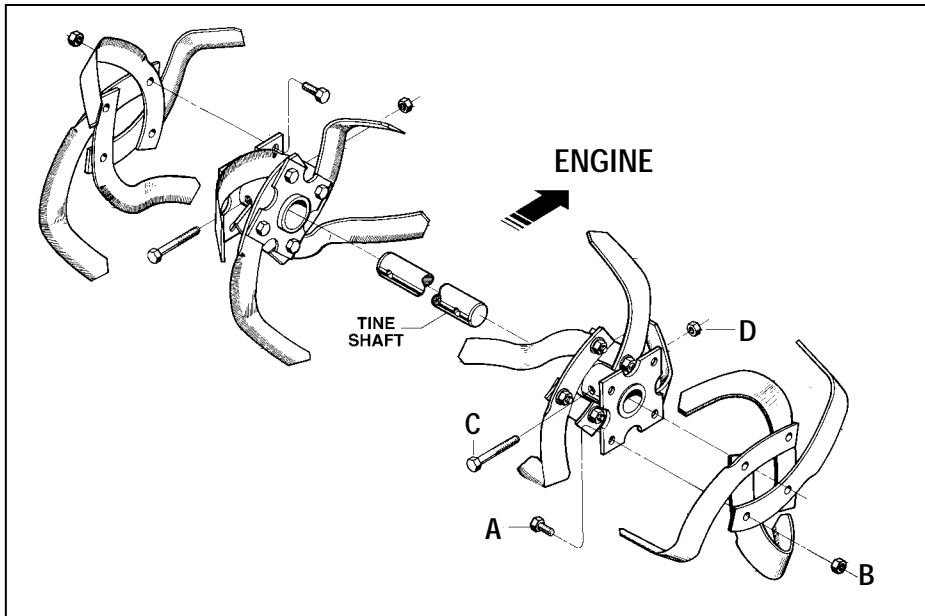

Figure 5-3: Install tines so that cutting edge of tines enter soil first when tiller moves forward.
1. With the engine shut off and the spark plug wire disconnected, remove the two screws (A, Figure 5-3) and locknuts (B) that attach a single tine to a tine holder. If needed, use penetrating oil on the nuts.
2. If removing both tine assemblies, mark them "left" and "right" before removal. Remove the screw (C, Figure 5-3) and locknut (D) that secure the tine assembly to the tine shaft. If necessary, use a rubber mallet to tap the tine assembly outward off the shaft.